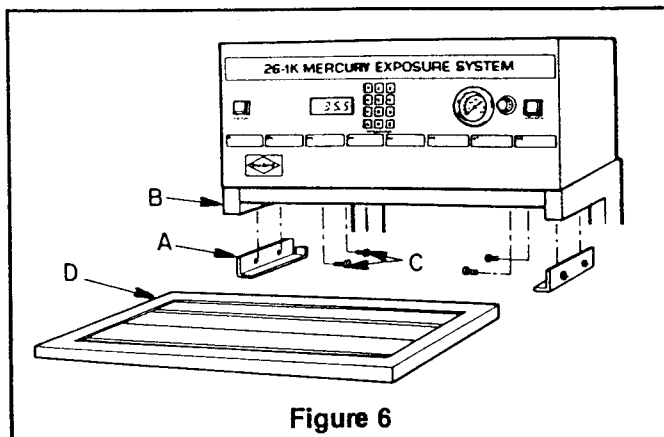

Figure 6
13. If you are not using the LC122 Kokomo Filter Assembly, proceed to Step 14. If you ordered the LC122 Kokomo Filter Assembly for use with special proofing materials, you must first install the brackets that hold the filter in position. Secure the left bracket (A-Fig. 6) to the left support arm (B-Fig. 6) with the 2 screws (C-Fig. 6) provided. Attach the right bracket in the same manner. The filter (D-Fig. 6) simply slides in and rests on these 2 brackets.
14. If you are not using the LC89 Diffusion Screen, proceed to Step 15. If you ordered the LC89 Diffusion Screen for "slowing" exposure time for certain "fast" materials, you must first install the brackets that hold the Screen in position. Attach the LC105 and LC106 brackets just like those brackets shown in Figure 6, Step 13. Slide the screen into position and let it rest on the brackets.